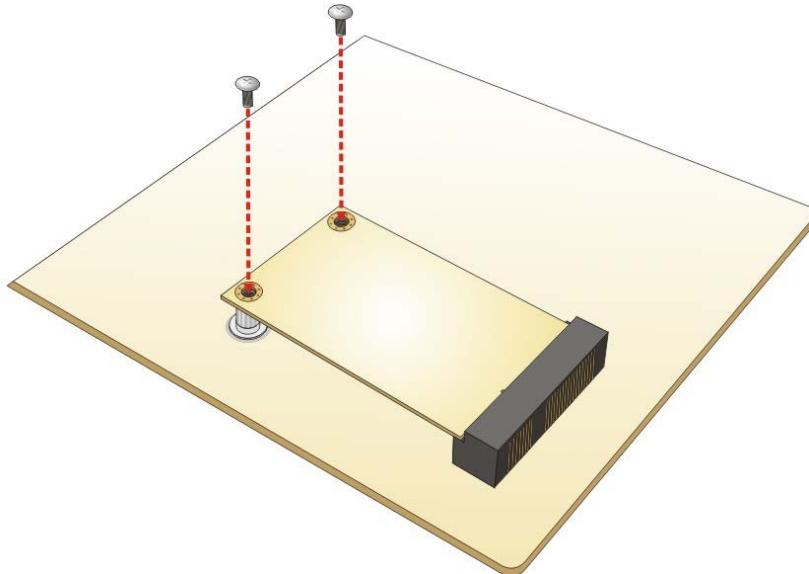

Figure 4-9: Secure the PCIe Mini Card
Step 4: Secure the PCIe Mini card. Secure the PCIe Mini card with the retention screws previously removed (**Figure 4-9**).